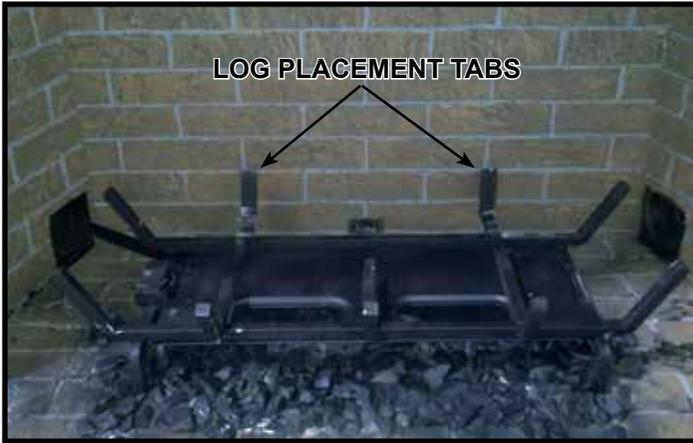
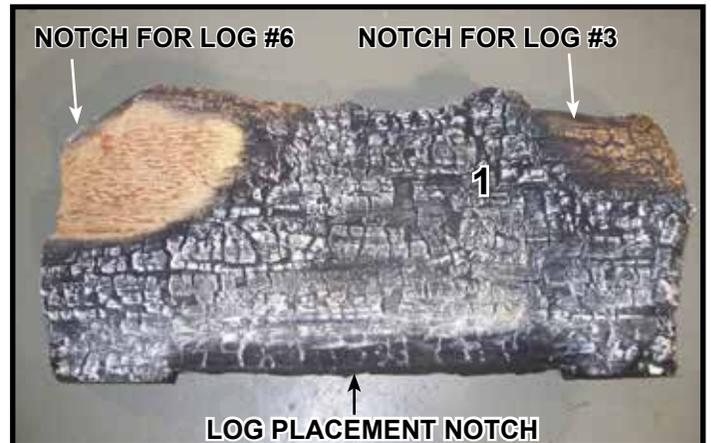
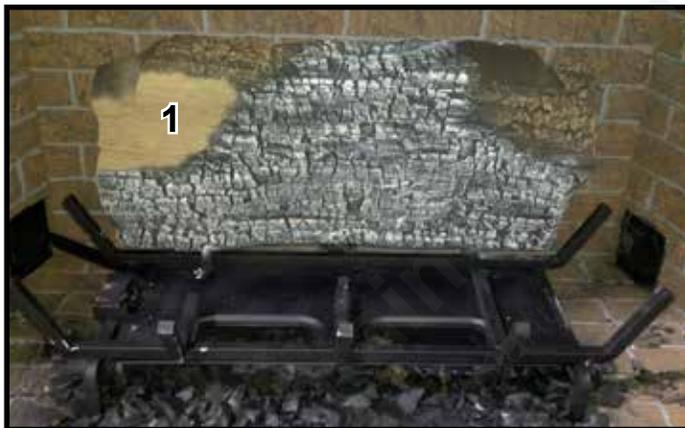

Figure 1.
Figure 2.
Figure 3.
**Log #1 (SRV2282-701):** Locate log placement notch on the bottom of log #1. See Figure 2. Mate outer notches on the bottom of Log #1 with the left and right grate tines. Slide Log #1 toward the rear of appliance until back side of Log #1 contacts the log placement tabs shown in Figure 1. See Figure 3.